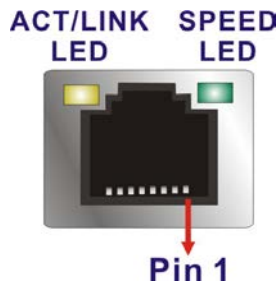

Figure 3-31: LAN Connector
- CN Pinouts:** See **Figure 3-31** and **Table 3-29**